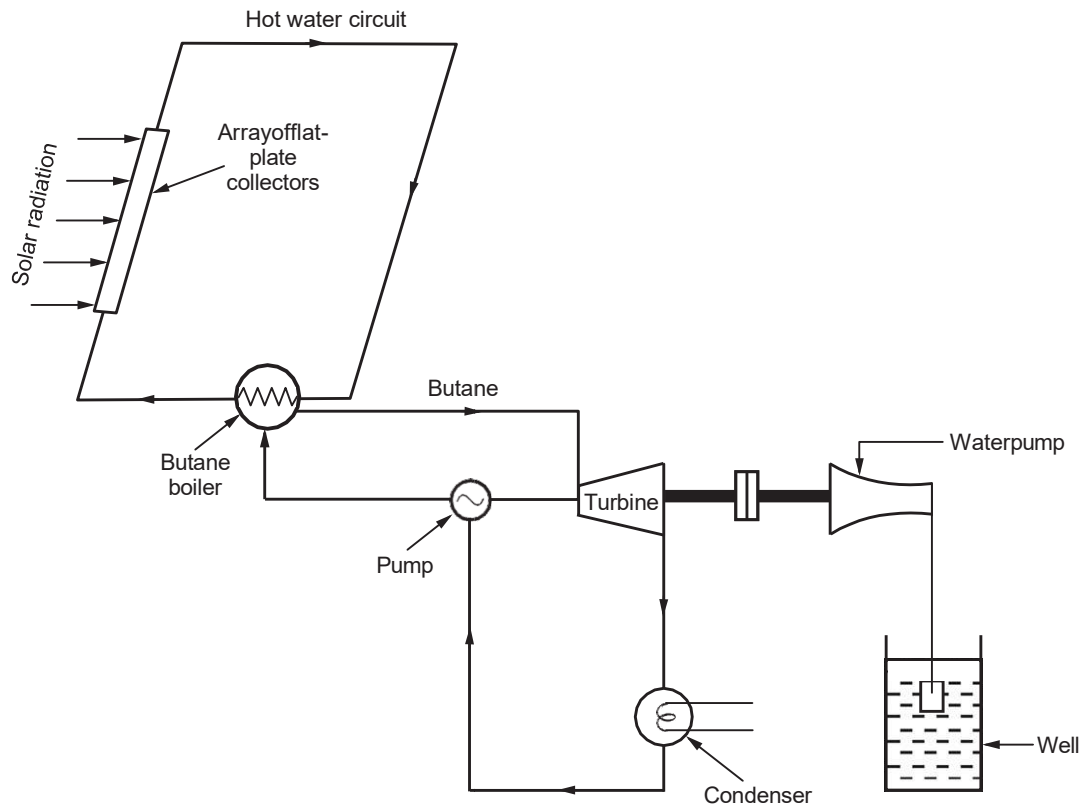

Fig. 2.16.1 Low temperature solar power plant
- Fig. 2.16.1 shows a schematic diagram of a low temperature solar power plant.